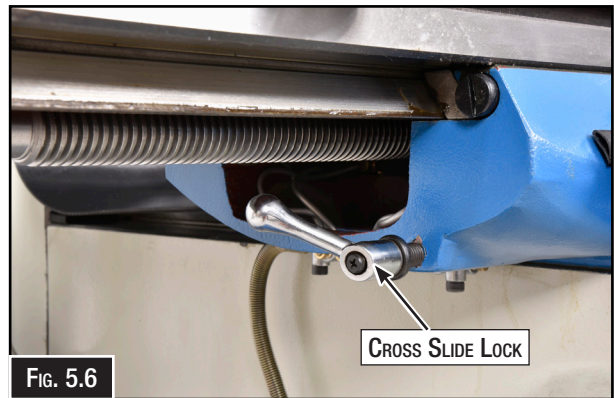

FIG. 5.6
• Locking The Saddle (Fig. 5.6)